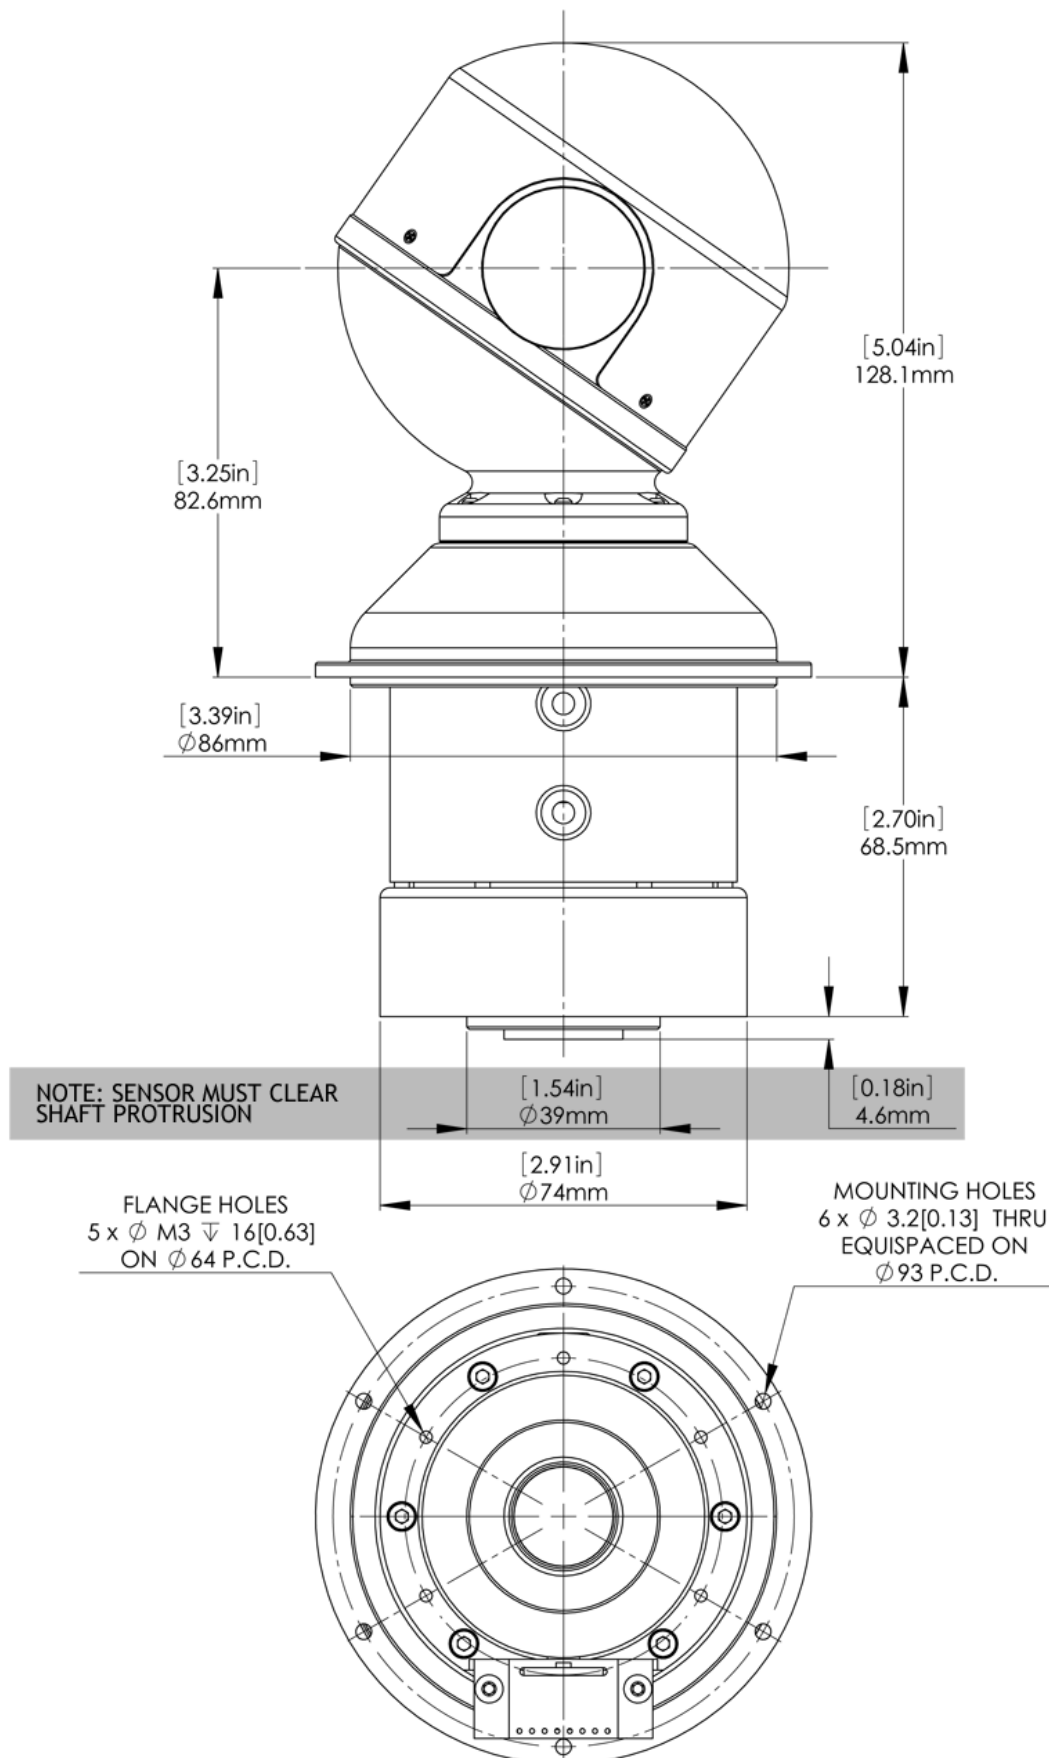

Figure 3.2 - REN25 Mechanical Dimensions
7. Attach preferred sensor to the bottom of the RobotEye unit, see Figure 3.2 for mounting site and hole placement.
The bounding dimensions and positions of mounting holes for the REN25 Unit is shown in Figure 3.2.